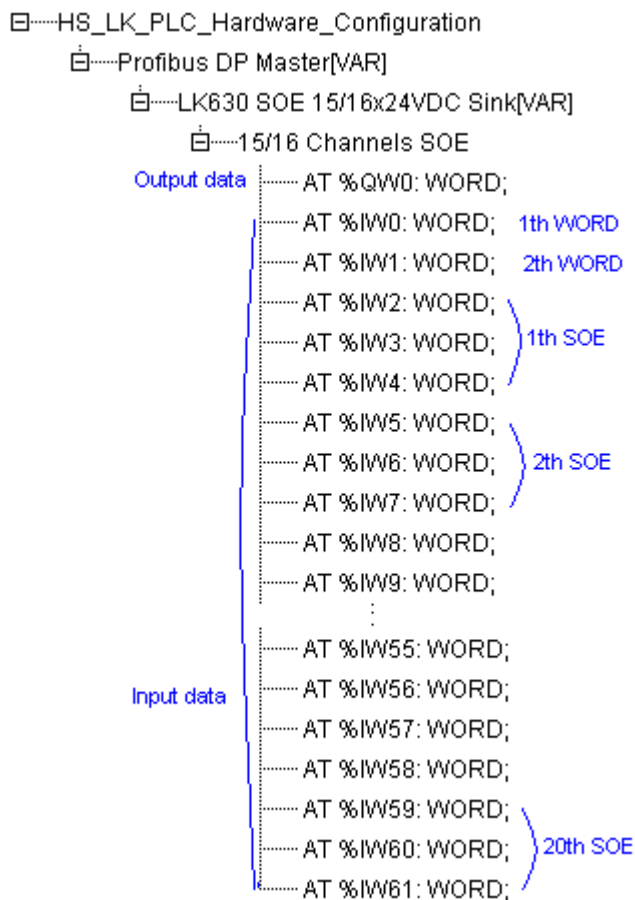

Figure 10.14: LK630 Data Area Interface
- As shown in Figure 10.14, the controller SOE data area contains 1 WORD length of output data and 62 WORD length of input data. Existed in the form of variables, input data in user program can update maximum 20 SOE event records at once. SOE function block (HS_DP_SOE_READ) can be called to read the SOE event records.